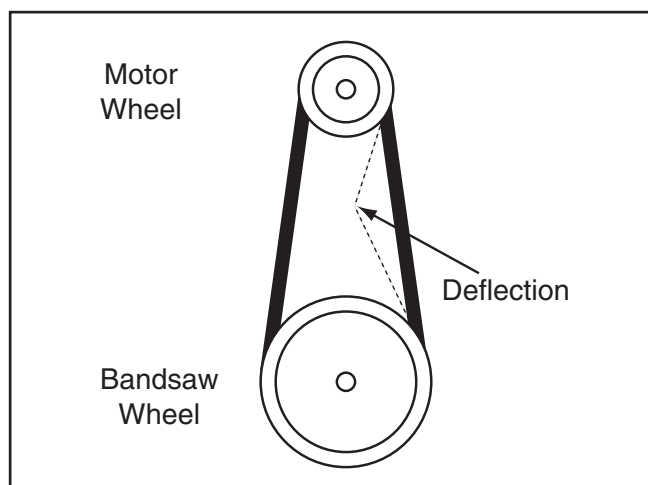

Figure 54. V-belt deflection.
4. Push the center of the V-belt. Note the amount of deflection (**Figure 54**). If deflection is more than $\frac{3}{4}$ ", tension the V-belt. (Refer to the instructions in **Tensioning V-Belt**.)